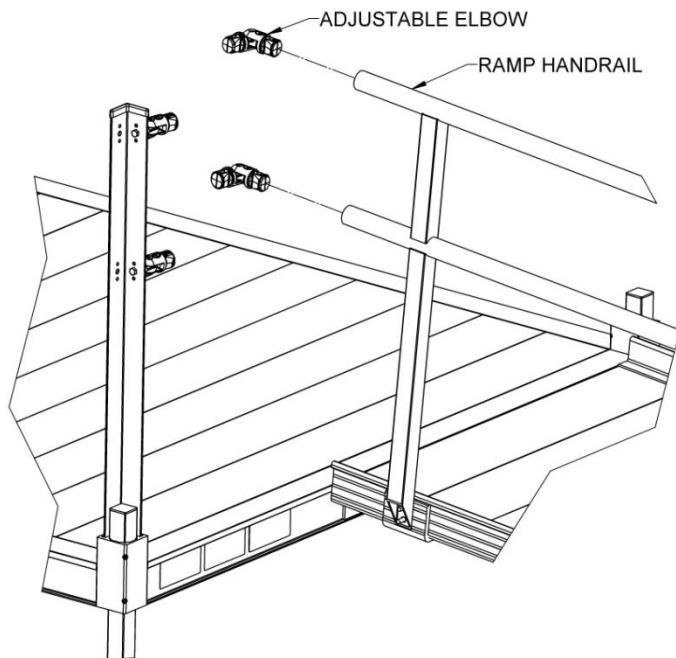

FIG. 6.9
- 6.2.4. Insert handrail adjustable elbows into the ends of the ramp handrail tubes (FIG. 6.9).